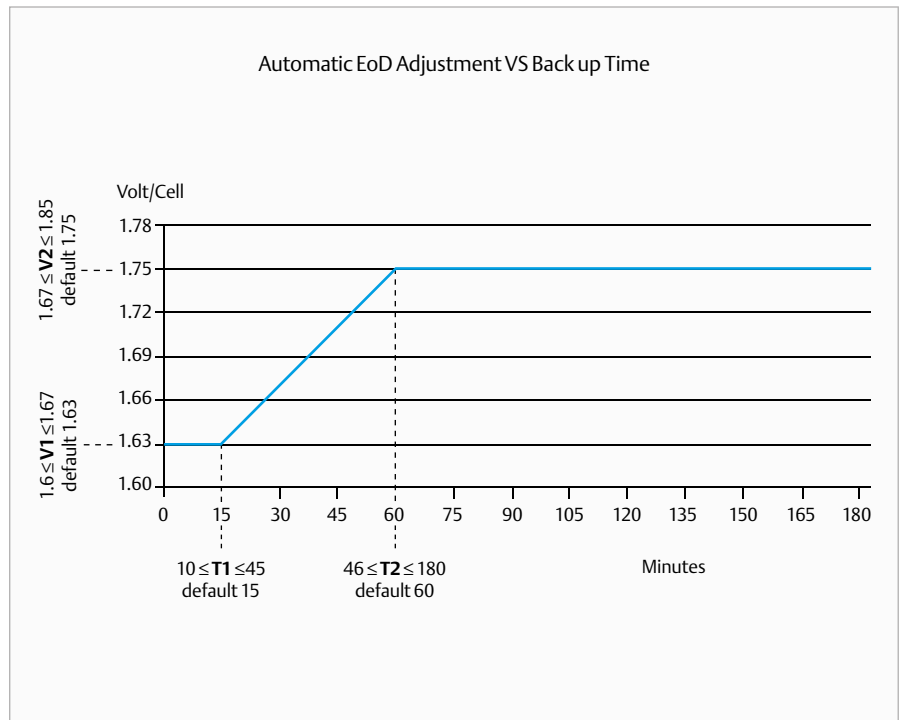

Figure 4. End of discharge voltage in relation to discharge time.
- Nominal voltage (V) 2.0
- End of discharge (EoD) voltage automatically regulated according to back up time - see Figure 4